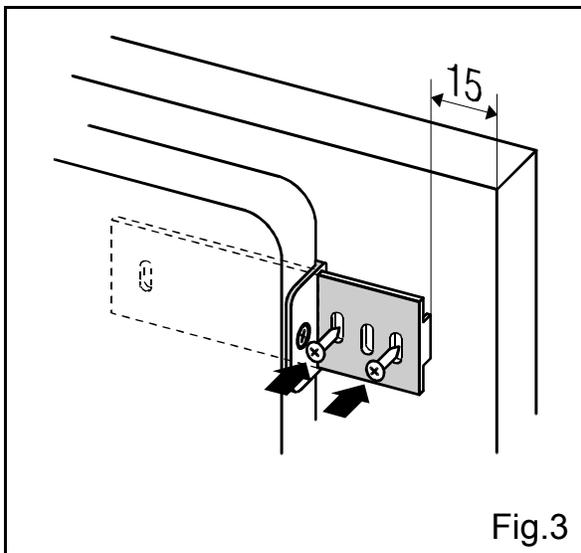

Fig.3
- Insert the slides into the guides and fix them on the kitchen unit door some 15 mm from the edge, using the A 4 x 12 screws (Fig. 3).